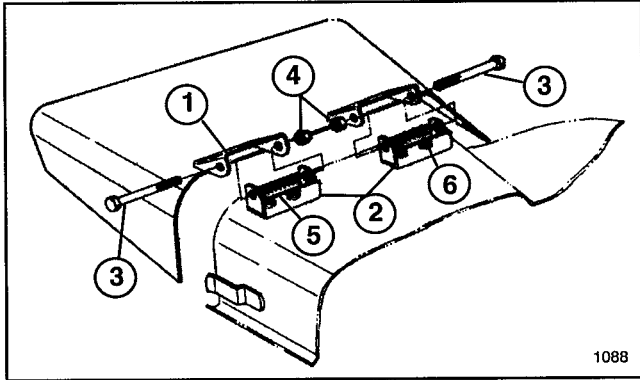

Figure 29
1. Remove bolts, lock nuts and springs securing deflector mounts to pivot bracket (Fig. 29).
2. To remove pivot brackets, remove carriage bolts and nuts (Fig. 29).